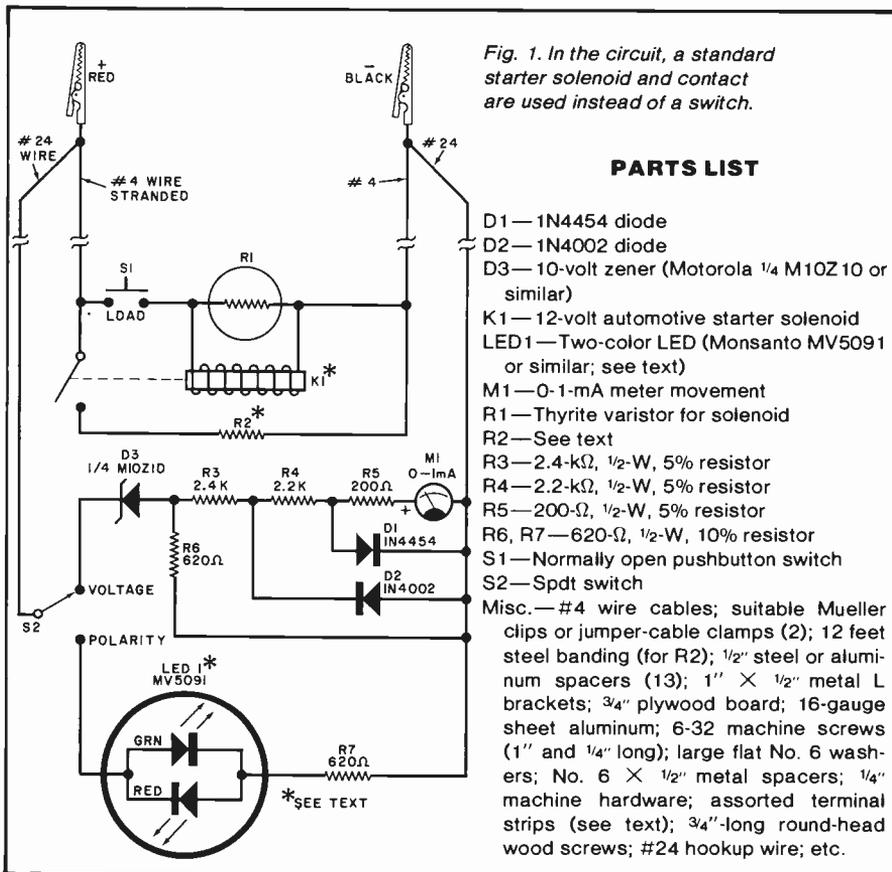

Fig. 1. In the circuit, a standard starter solenoid and contact are used instead of a switch.
**The Circuit.** The battery tester, shown schematically in Fig. 1, assumes the test current to be 200 amperes at 12 volts. (To determine appropriate load current, refer to the box.) Using Ohm's Law and assuming a 12-volt battery, you can readily see that load resistor  $R2$ 's value would have to be a very low 0.06 ohm ( $R = E/I = 12 \text{ volts}/200 \text{ amperes} = 0.06 \text{ ohm}$ ). Furthermore, its power rating would have to be a whopping 2400 watts ( $P = IE = 200 \text{ amperes} \times 12 \text{ volts} = 2400 \text{ watts}$ ). Clearly, you're not going to find a resistor with these ratings in your local electronics parts store. Fortunately, however, you can fabricate your own power resistor from available inexpensive materials.
You're not likely to find a switch that can handle 200 amperes in an electronic parts store, but a conventional 12-volt automotive starter solenoid ( $K1$  in Fig. 1) will fill your need. Operating current for the solenoid is controlled by normally open pushbutton switch  $S1$ .
When selector switch *S2* is set to POLARITY, *LED1* glows green if the tester is connected to the battery in proper polarity, red when the connection's polarity is incorrect. Note that Fig. 1 shows and the Parts List specifies an integrated red/green LED assembly for *LED1*. If you wish, you can replace this with discrete red and green LEDs, connecting them into the circuit as shown for the integrated unit.